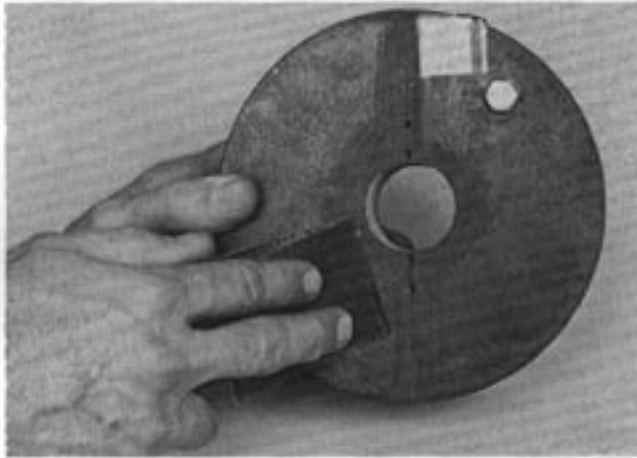

FIGURE 13 - SCUFFING OUTSIDE END PLATE SURFACE
5.11 Use emery cloth provided to remove sharp edges on plastic and foam in area of opening (Figure 13). Scuff lightly. **DO NOT REMOVE TOO MUCH MATERIAL.**